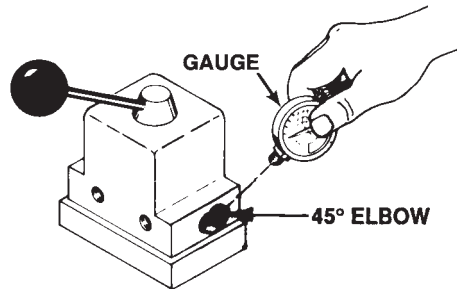

FIGURE 3
- (1) Installation of the hydraulic gauge (refer to Figure 3):